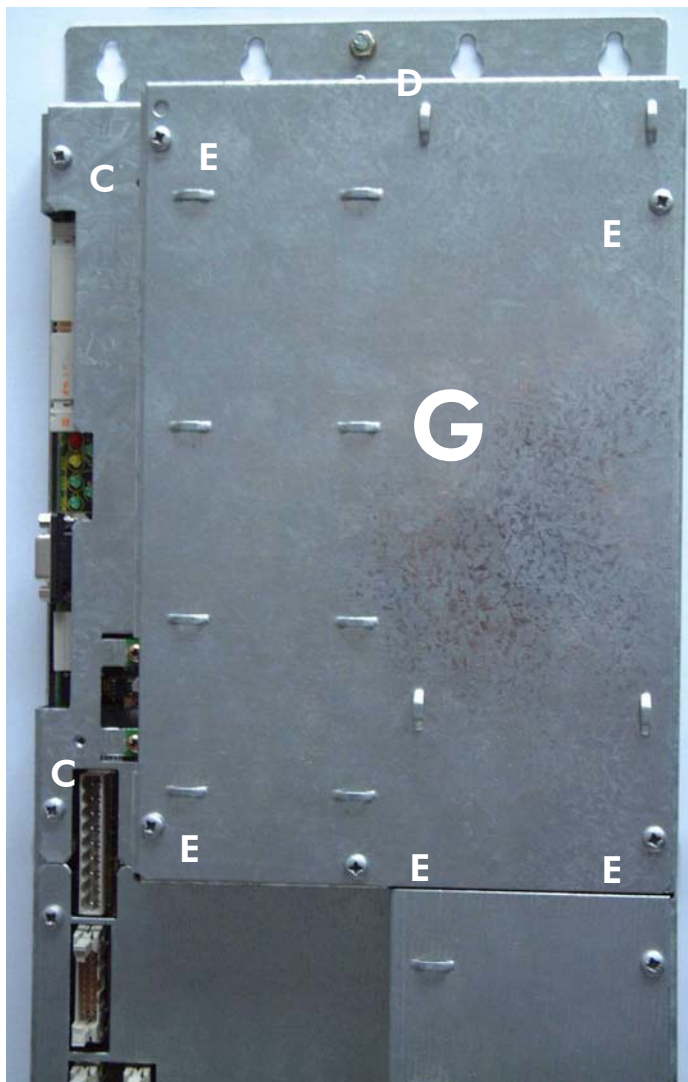

Figure 3-6 DELTA system – fitting the CAN board
2. Referring to Figure 3-6, remove the five M4 screws (E), and the M5 nut and washers (D) (next to the M5 earth stud), that secure the steel cover plate (G) covering the control board.